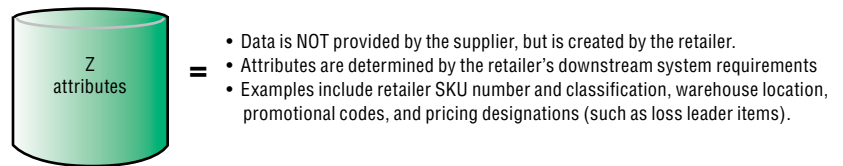

Figure 3. Z attributes
Z attributes are derived from your own, internal product-information requirements (see Figure 3). Examples of Z attributes include retailer classifications, warehouse location and pricing categories. As a retailer, you require more than information from your suppliers (X and Y, as discussed previously) to have a comprehensive data set to drive downstream system and business-process requirements. You also need your own, retailer-enriched information. You will also likely have different requirements for different categories (such as food, apparel and general merchandise) or geographies (such as varying legal reporting requirements and import information).
- *Large suppliers have another avenue to provide information not supported by the data pool that you need (Y attributes), as shown in Figure 3.*